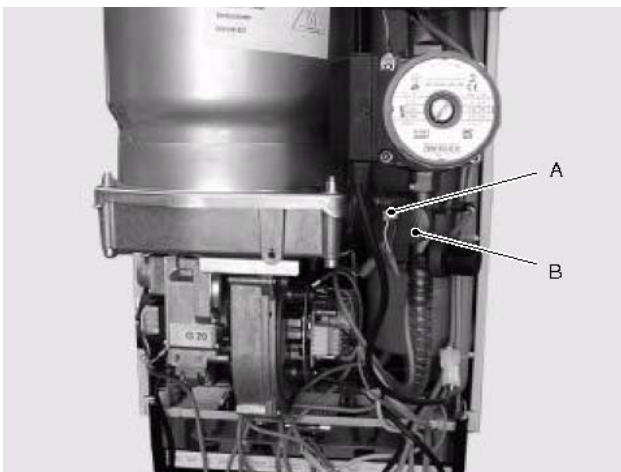

Fig. 16
- 4 Disconnect the connector A (Fig. 16).